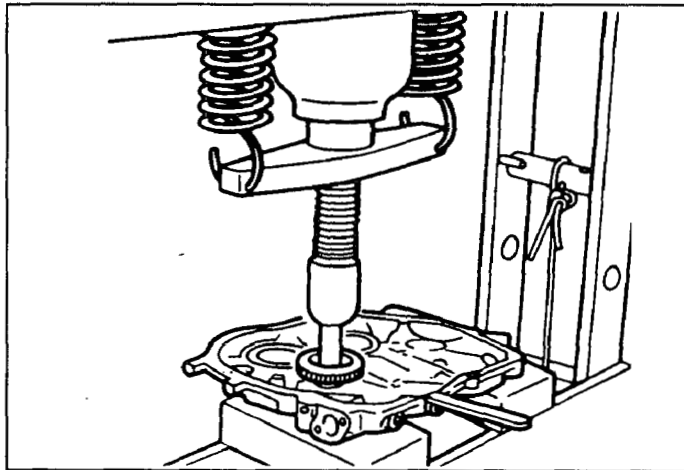

FIG. 50
- Press the iron sleeve of governor gear using a pressing machine to fit on the governor gear shaft. (See Fig.50.)